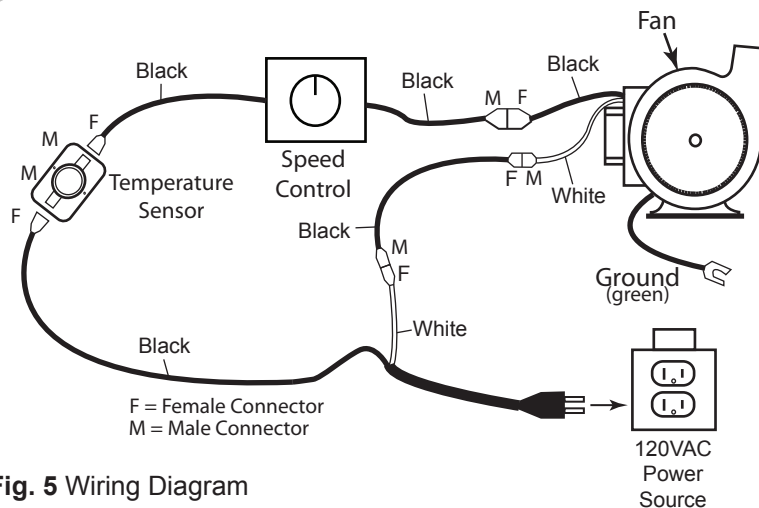

Fig. 5 Wiring Diagram
6. Complete the connection of the speed control and temperature sensor. (See Fig. 5)